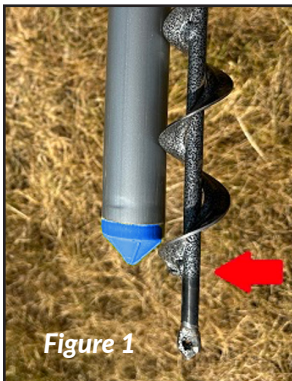

Figure 1
3. Align the profiler's tip next to the auger's fluting with each of the ends aligned with each other (Figure 1)